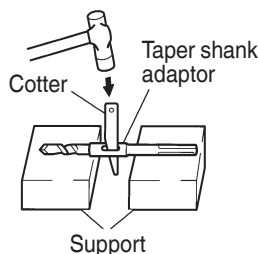

Fig. 14
(2) Turn the power on and drill a base hole.
(3) After cleaning out dust with a syringe, attach the plug to the anchor tip and drive in the anchor with a manual hammer.
(4) To remove the drill bit with taper shank, insert a cotter into the slot of the taper shank adaptor, place supports under the Rotary Hammer and tap the cotter with a manual hammer. (Fig. 14)